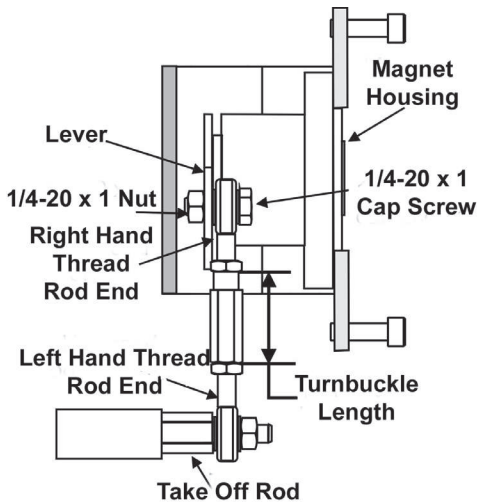

Figure 8 - Reciprocating Linkage
4. Thread the take-off rod to the actuator stem connector. Refer to Figure 8. Ensure that the travel pointer located on the coupling is correctly positioned.
10. Thread the turnbuckle onto the left hand threaded rod end. Refer to Figure 8.